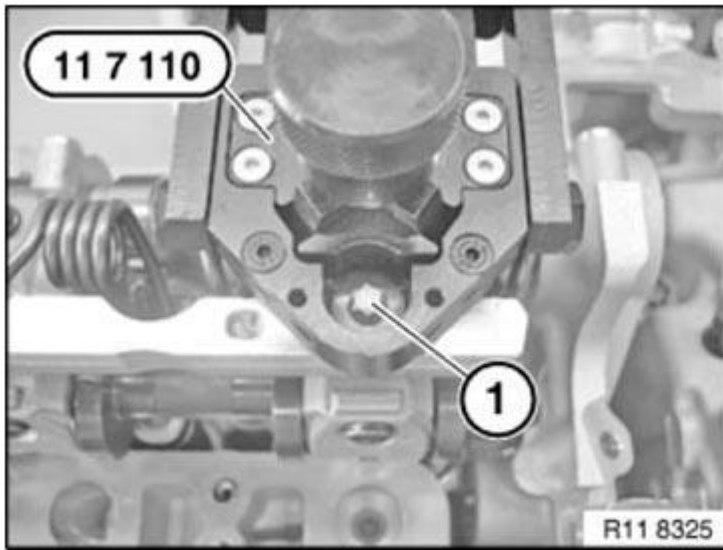

Fig. 608: Positioning Return Spring
Return spring (1) is positioned correctly when catches (see arrows in **Fig. 608**) are surrounding return spring (1).